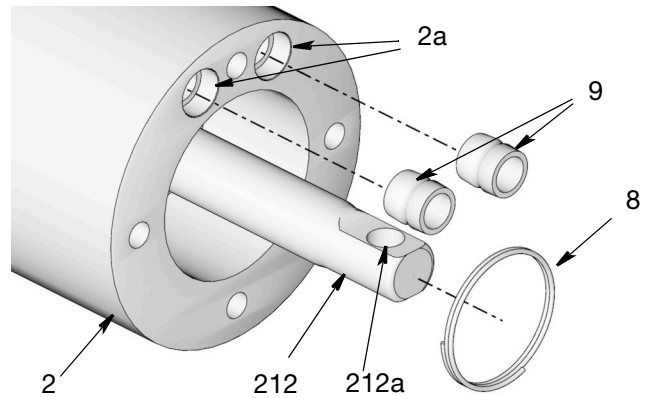
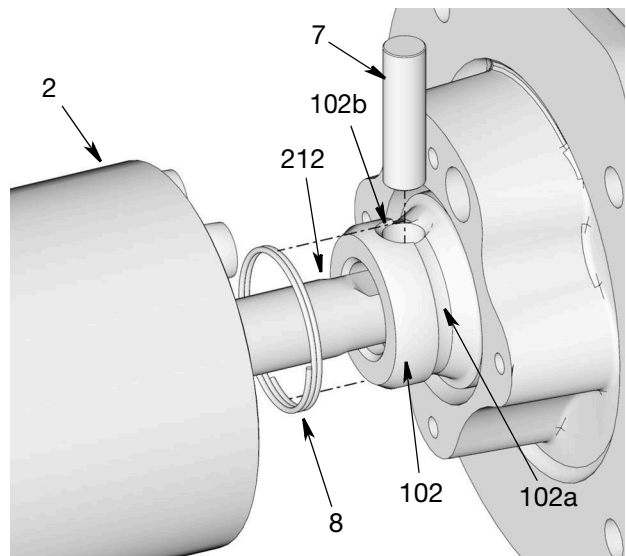
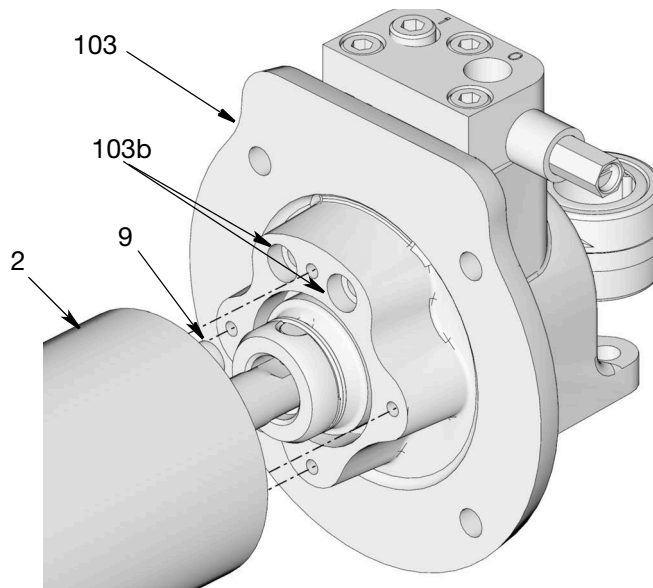

FIG. 45
FIG. 46
FIG. 47
18. Push the displacement rod assembly up until the displacement rod (212) is extending out the top of the pump adapter (2), as shown in FIG. 45.
19. Apply a thin layer of grease to the gasket seals (9). Install the seals in the pump adapter (2), as shown in FIG. 45
20. Place the spring (8) over the end of the displacement rod (212), as shown in FIG. 46.
21. Remove the pump assembly from the vise. Align the hole (212a) in the displacement rod (212) (FIG. 45) with the connecting rod hole (102b) (FIG. 46). Insert the pin (7) through the hole.
22. Slide the spring (8) over the pin (7) to secure the pin in place. Seat the spring in the groove (102a) in the connecting rod (102) to prevent moving during pump operation.
23. Align the two gasket seals (9) in the pump adapter (2) with the two holes (103b) in the gear box pump bracket (103). Push the pump lower and the pump assembly together (FIG. 47).